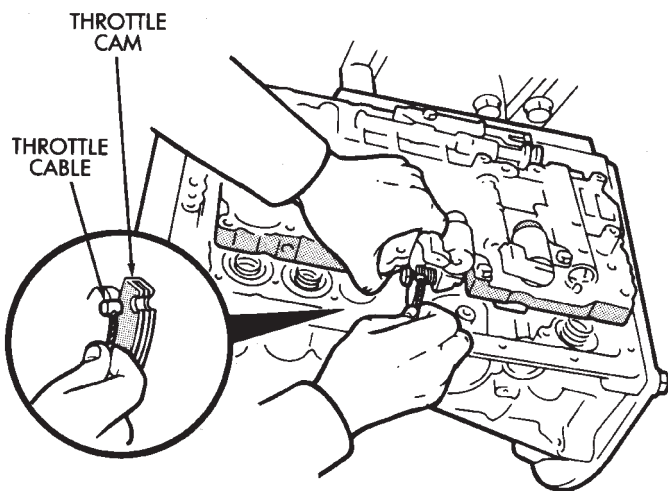

Fig. 60 Connecting Transmission Throttle Cable
- (78) Connect transmission throttle cable to throttle valve cam (Fig. 60).
- (79) Install and tighten valve body-to-case bolts to 10 N•m (7 ft. lbs.) torque.
- (A) SECOND BRAKE ACCUMULATOR PISTON
- (B) DIRECT CLUTCH ACCUMULATOR PISTON
- (C) OVERDRIVE BRAKE ACCUMULATOR PISTON
- (D) OVERDRIVE CLUTCH ACCUMULATOR PISTON